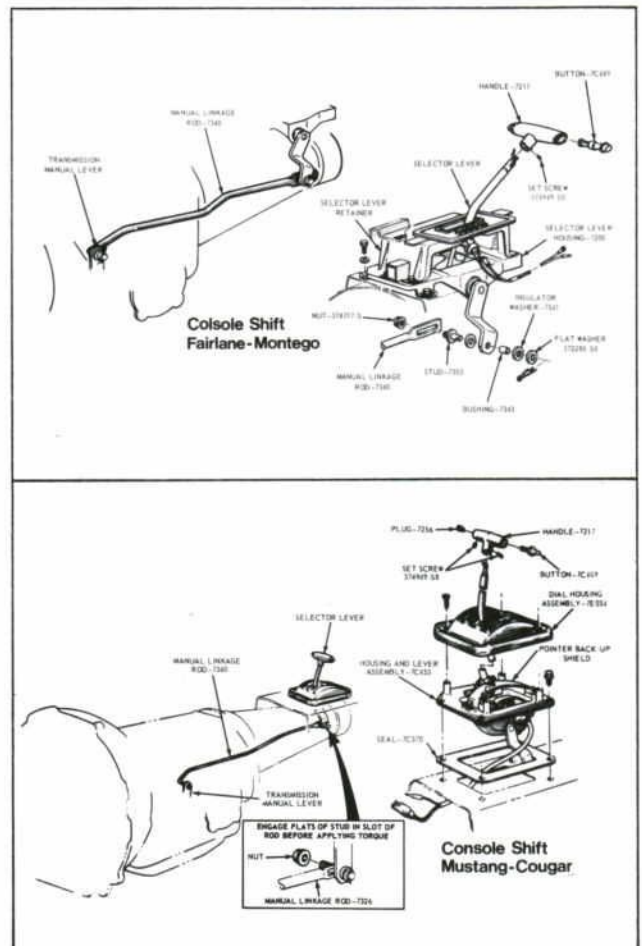

Figure 2—Console Shift Manual Linkage
1969 Mustang, Fairlane, Cougar and Montego employ new linkage (Fig. 2) that requires a new adjustment procedure.
2. Raise the vehicle and loosen the manual lever shift rod retaining nut (Fig. 2). Move the transmission manual lever to the "D" position, fourth detent position from the back of the transmission.
2. With the selector lever in neutral, remove the selector lever handle attaching screw and remove the handle (Fig. 2).